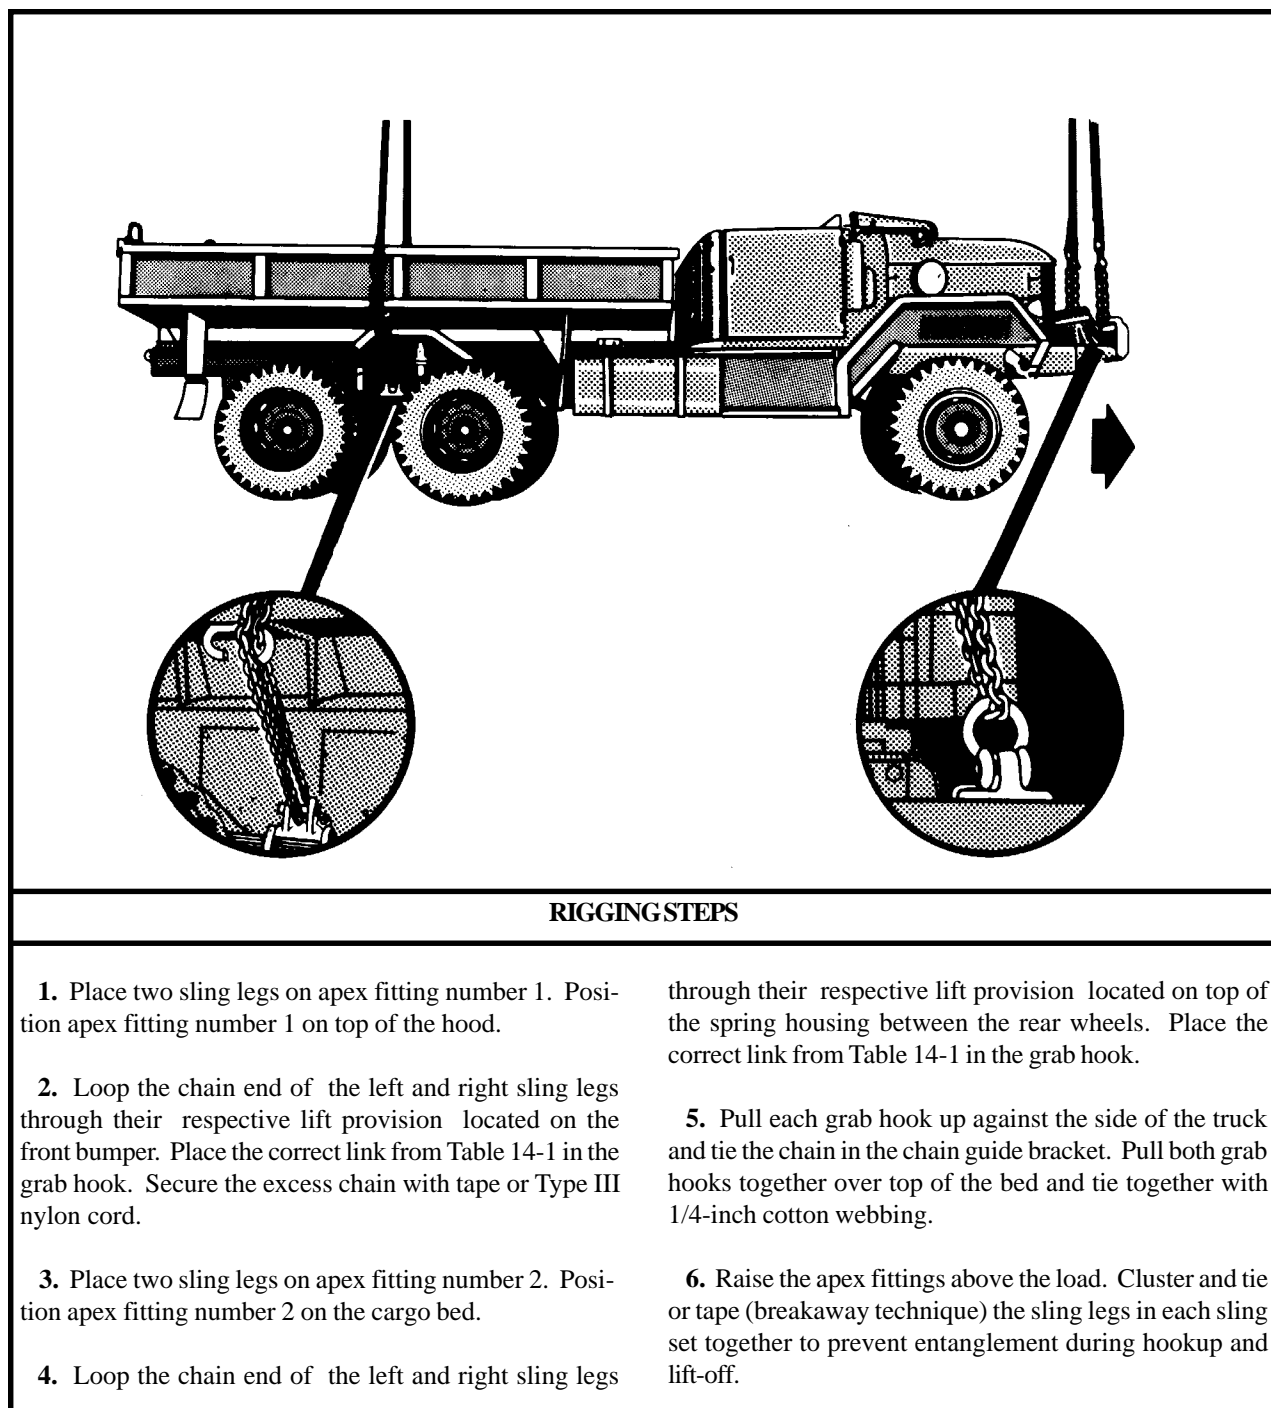

Figure 14-1. M35A1/A2 2 1/2-Ton Cargo Truck
(2) **Rigging.** Rig the load according to the steps in Figure 14-1.